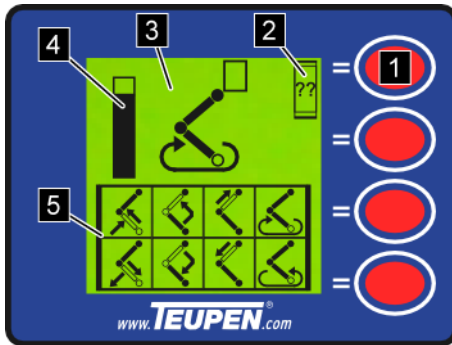
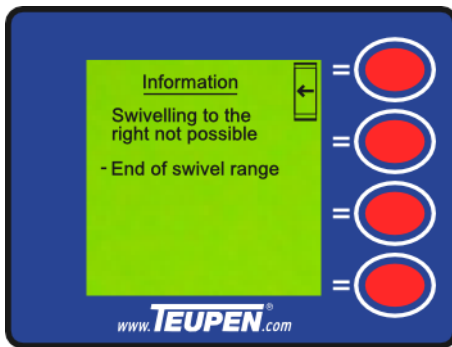

Fig. 56: Example for platform function
Fig. 57: Example of an information message
In platform function operating mode, the movements currently available to be activated with the operating levers are shown with the lower 8 pictograms (Fig. 56/5). When the limit stop for a platform function is reached, a large pictogram (Fig. 56/3) is shown for the limited movement. A bar graph (Fig. 56/4) also shows the remaining clearance to the limit stop.
An information message (Fig. 56/2) appears when an illegal movement is selected.
1. → Call up the respective information message (Fig. 57) using the [function key] (Fig. 56/1).
2. → Jump back a level with the [function key] (Fig. 57/1).